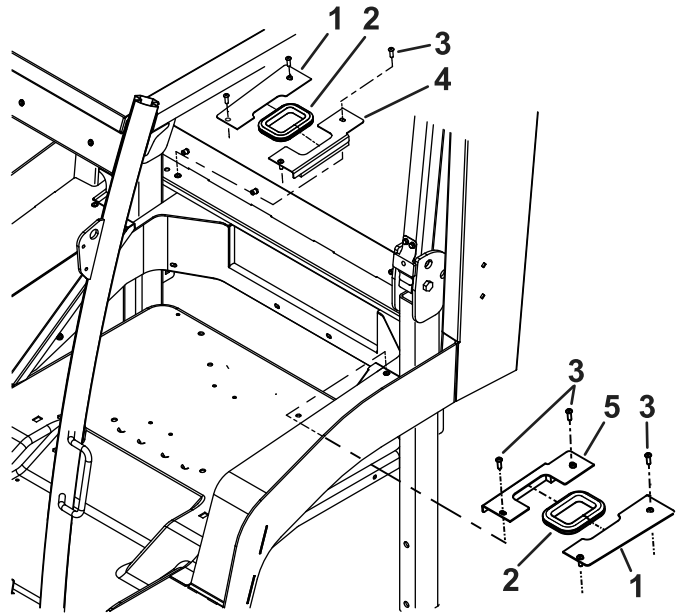

Figure 14
9. Install the roll bar seals around each side of the roll bar (Figure 14).
10. Install the left cover and 1 retainer cover into the left seal and secure the covers with 4 screws (1/4 x 3/4 inches); refer to Figure 14.
11. Install the right cover and 1 retainer cover into the right seal and secure the covers with 4 screws (1/4 x 3/4 inches); refer to Figure 14.